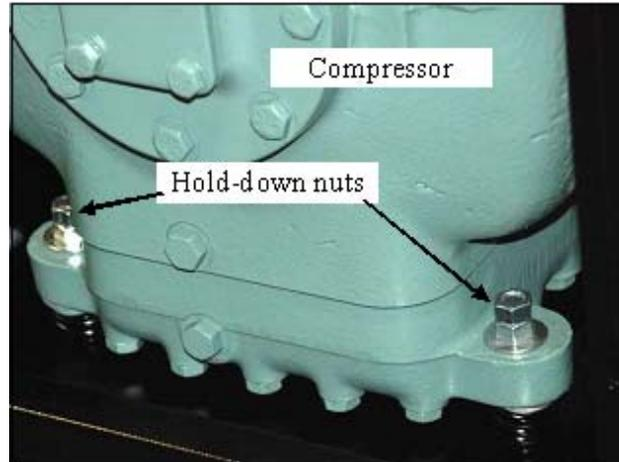

Figure 4-5: Hold-down Nuts
4. Locate the compressor in the bottom of the refrigeration unit. See Figure 4-3 and Figure 4-5.
5. Locate the four hold-down nut locations on the compressor. See Figure 4-5.